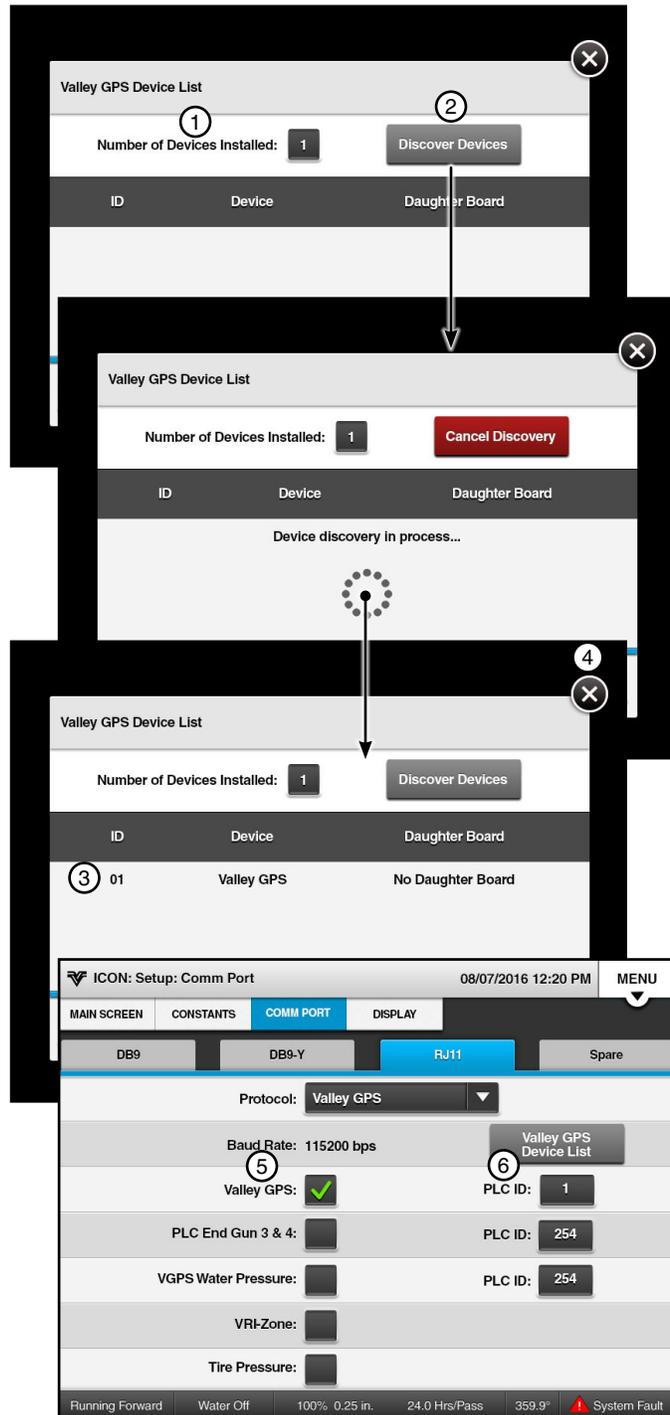

Figure 42-1 1. Enter Number of Devices
- (v) Enter the Number of Devices Installed. See Figure 42-1.